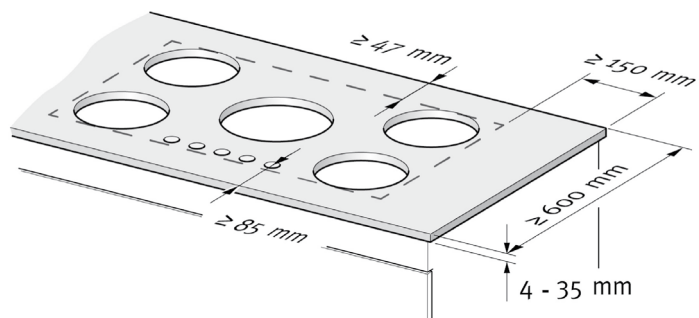

fig. 1
- All mentioned dimensions should always be taken into account and checked before installing the induction appliance (fig. 1, 2 and 5).